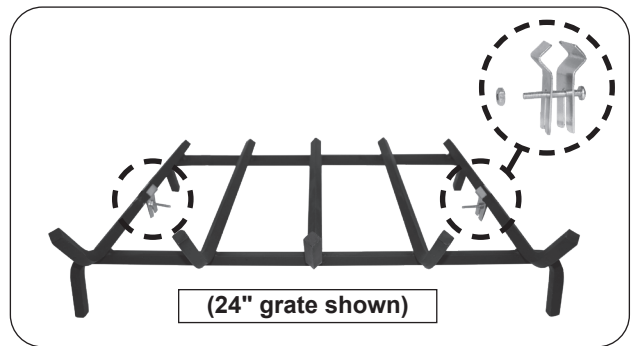
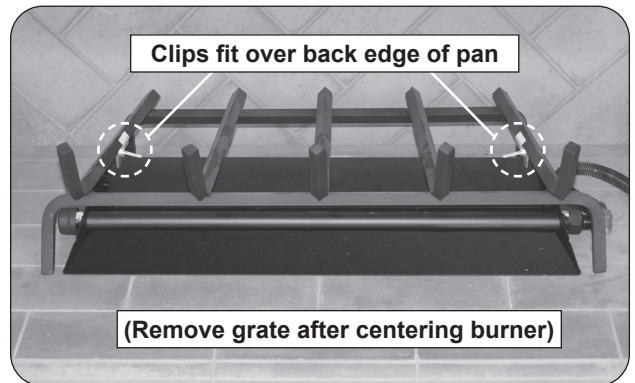
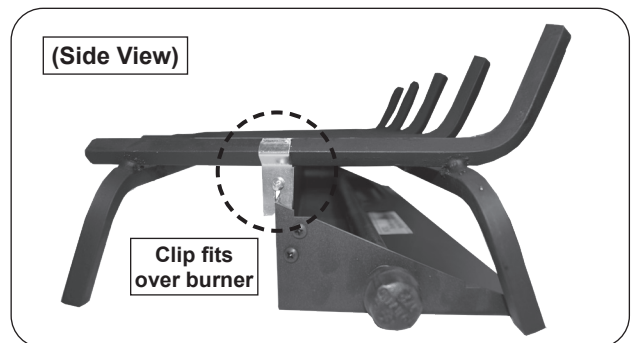

Fig. 11-1 Attach stabilizer clips to grate
Fig. 11-2 Position grate
Fig. 11-3 Grate placement detail
1. Locate the grate (outside of the fireplace) and attach the stabilizer clips to the 2 outer bars of the grate using the provided screws and nuts (see Fig. 11-1 and Fig. 11-3).
The stabilizer clips should be positioned toward the middle of the outer bars and oriented as shown in Fig. 11-1. Tighten the clips in place.
2. Position the grate over the burner pan (in fireplace) so the stabilizer clips fit over the back edge of the pan to lock it in position. Ensure the assembly is centered from left to right. See Fig. 11-2 and Fig. 11-3.